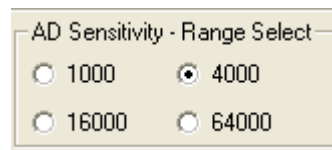

FIGURE 13.
- **Sensitivity-Range Select** (Figure 13) allows us to choose the sensitivity of the sensor based on external conditions/object detection. For example, a really bright object would require a higher range (i.e. 64000), versus a dark object, which would require a low range (i.e. 1000). Higher range reduces photo detector sensitivity.